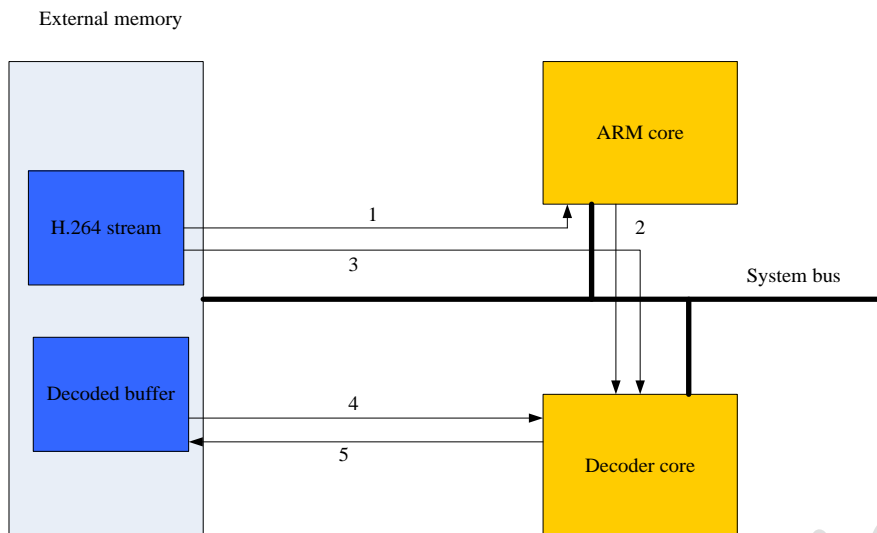

Fig. 25-8 Dataflow of HW performs entropy decoding in video decoder
The dataflow of HW performs entropy decoding is as Fig. 25-8 shown. The decoder software (SW) starts decoding the first picture by parsing the stream headers (1). Software then setups the hardware control registers (picture size, stream start address etc.) and enables the hardware (2). Hardware decodes the picture by reading stream (3) and the reference pictures (required for inter picture decoding)(4) from the external memory. Hardware writes the decoded output picture to memory one macroblock at a time (5). When the picture has been fully decoded or the hardware has run out of stream data, it gives an interrupt with a proper status flag and provides stream and address for software to continue and returns to initial state.
The dataflow of MPEG-2/MPEG-1 is the same of H.264 HW performs entropy decoding as Fig. 25-8.